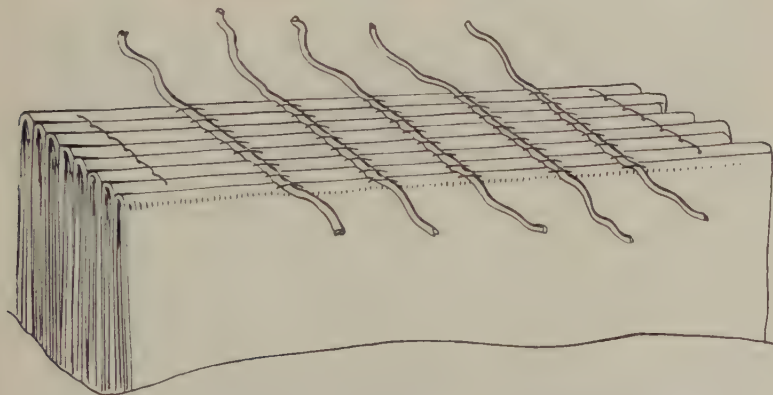

FIG. 175—SEWED BOOK WITH BANDS OR CORDS "CUT-DOWN" PROPERLY, LEAVING $1\frac{1}{2}$ " OF CORD ON EITHER SIDE OF BOOK
3. Cut off cords $1\frac{1}{2}$ " from under side of book. This leaves your book like Fig. 175.